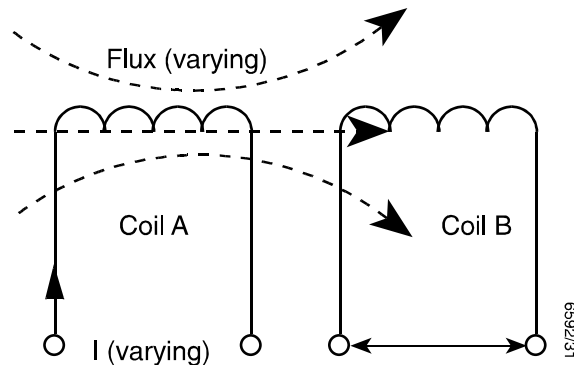

Figure 34 - Mutual Inductance
52. Back emf. Relative movement between a coil and a magnetic field induces an emf in the coil (E). The same effect occurs if two coils are in close proximity and a current in one of the coils is varied, as shown in figure 34.